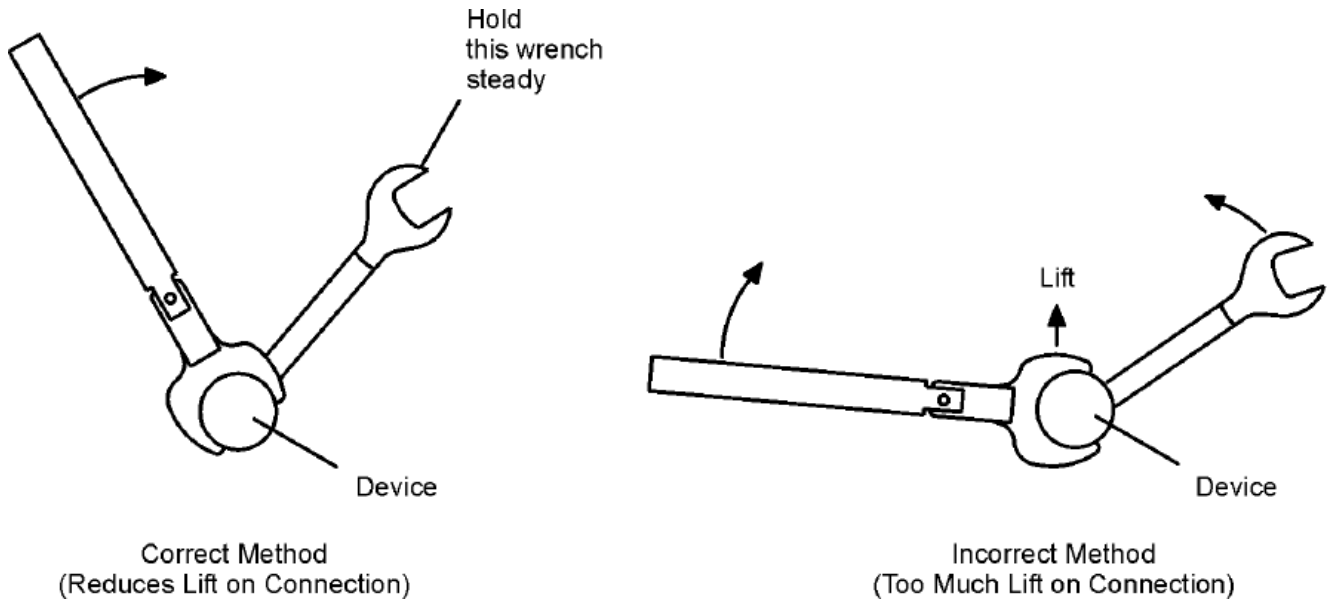

Figure 3-4 Wrench positions
- 1 Position both wrenches within 90 degrees of each other before applying force. See Figure 3-4. Wrenches opposing